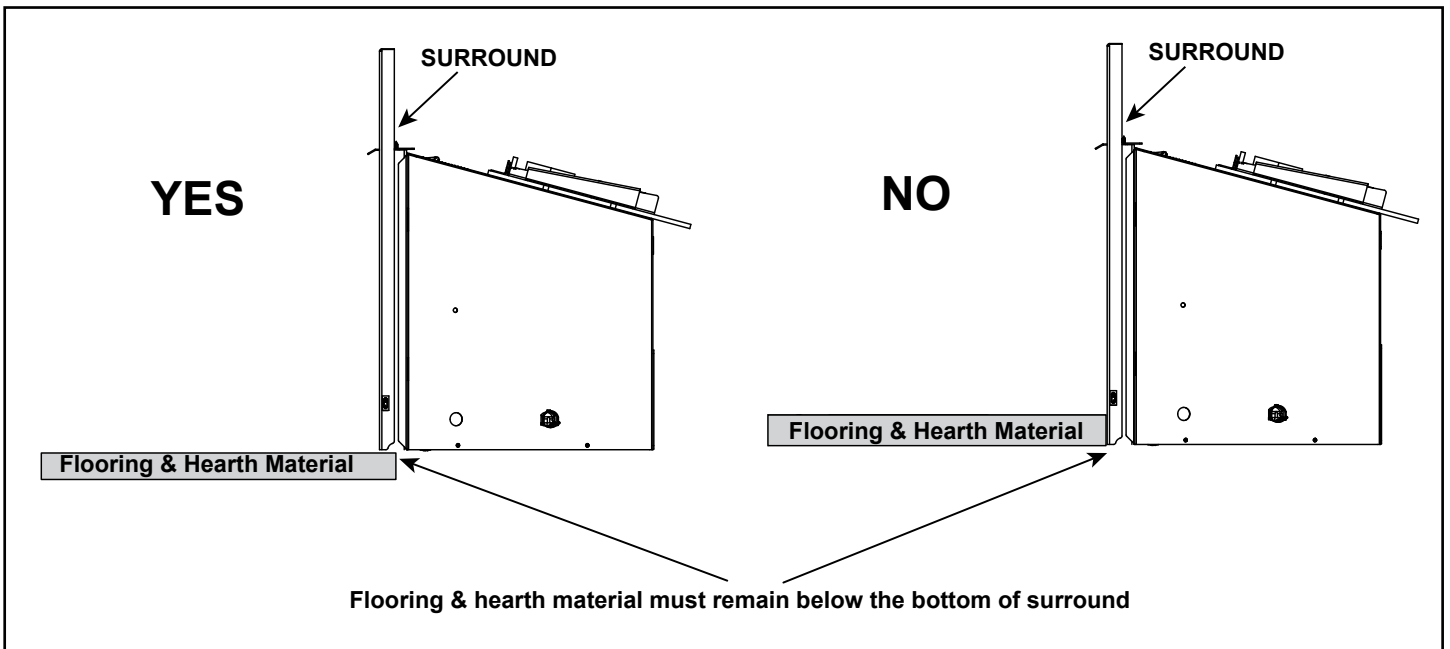

Figure 3.17 Flooring & Hearth Material
- All flooring and hearth material must remain below the bottom of the surround. See Figure 3.17.